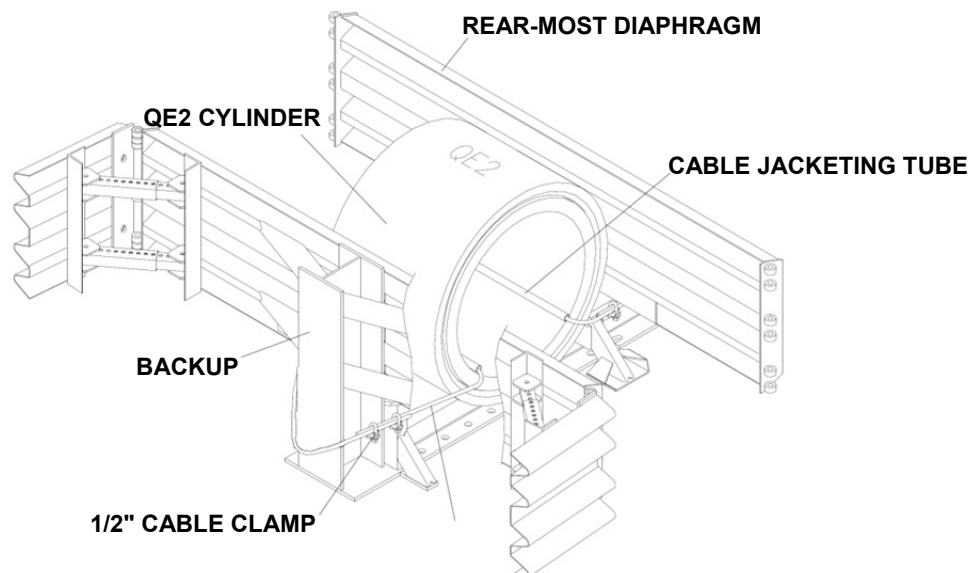

Figure 51
All QuadGuard® Elite systems utilize a specific Cylinder configuration. Each system may be equipped with up to three different types of Cylinders. See Figure 51 with corresponding Cylinder configuration depending on the number of Bays.
Thread the 1/2" diameter wire rope around the back face of the Backup structure, the Cable Jacketing Tube, and the center of the Cylinder as shown in Figure 51.
Attach ends of the cable using (2) 1/2" Cable Clamps as shown in Figure 51. The Cable Clamps should be separated by approximately 102 mm [4"] as shown.